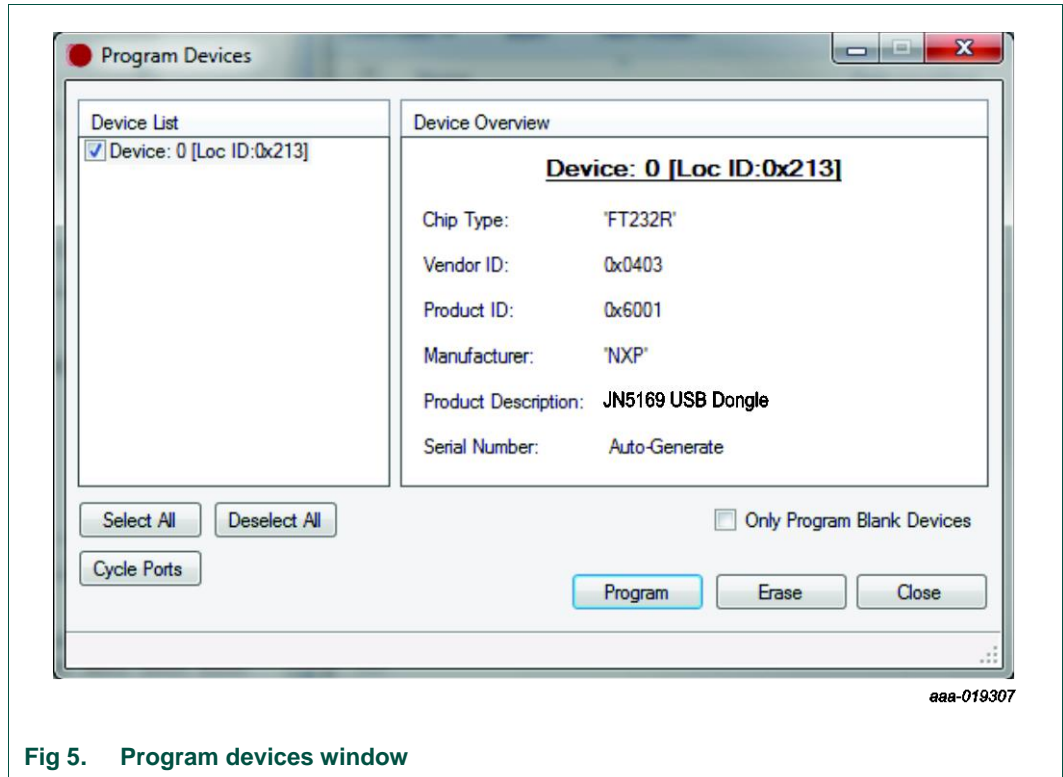

Fig 5. Program devices window
6. On the resulting screen, click Program – see Fig 5
| Fig 5. | Program devices window | 8 |